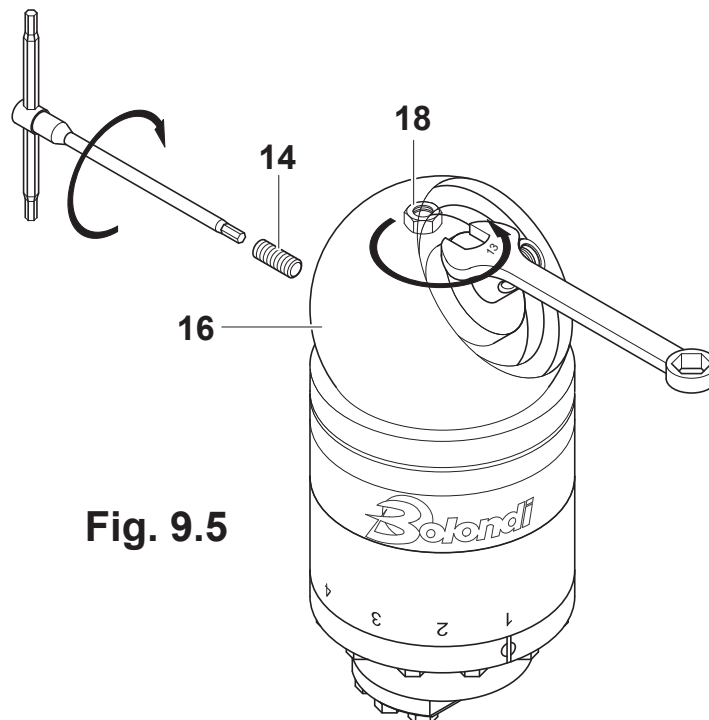

Fig. 9.5
9.3.3) Using a 5 mm. hex spanner undo and remove the dowel pos.14 and then remove the cap pos.16 (Fig.9.5).